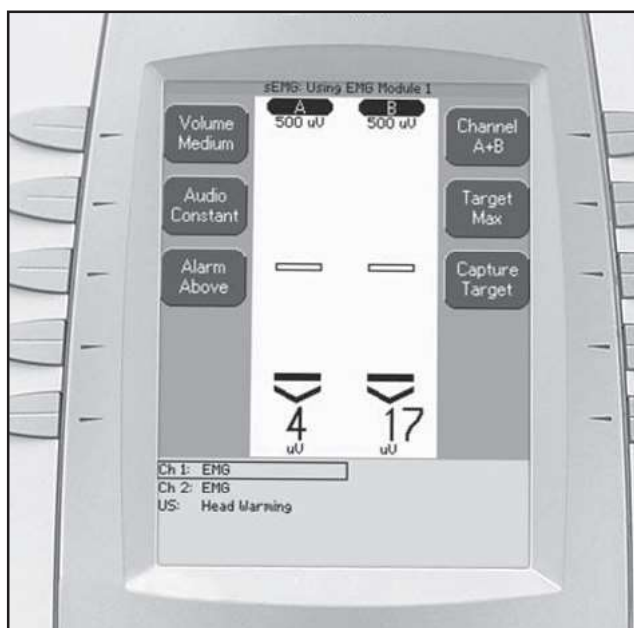

FIGURE 5.33
4. Press the sEMG Button on Home Screen. Channel 1 should read 7 or less. **See Figure 5.33.**